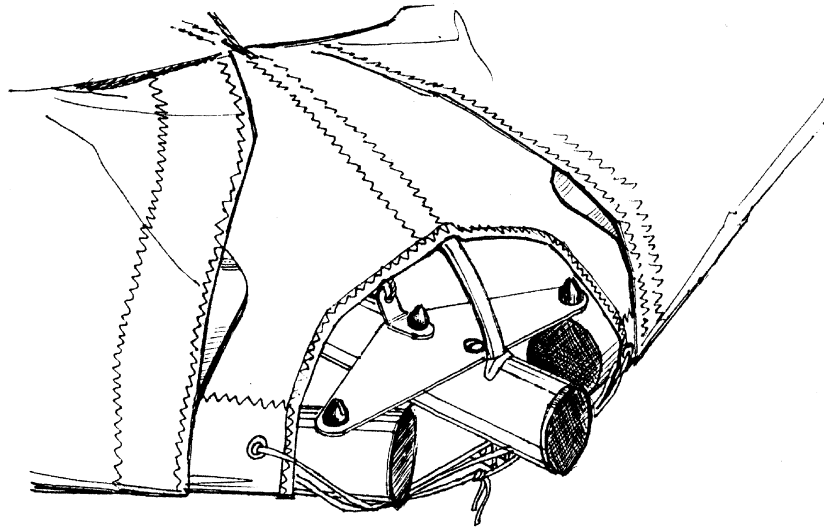

Fig.13
2.1.13. Put the top front wire through the corresponding hole at the nose of the sail. Put the tightening rope of the nose of the sail under the front end of the keel tube (Fig.13).